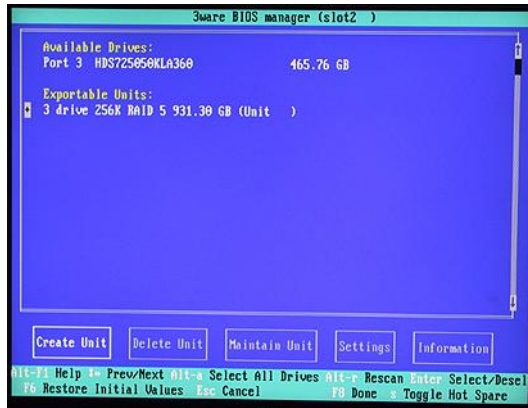

Figure 3-55
- 15) At this point, you will be presented with a summary description of the RAID array you have defined (Figure 3-55).